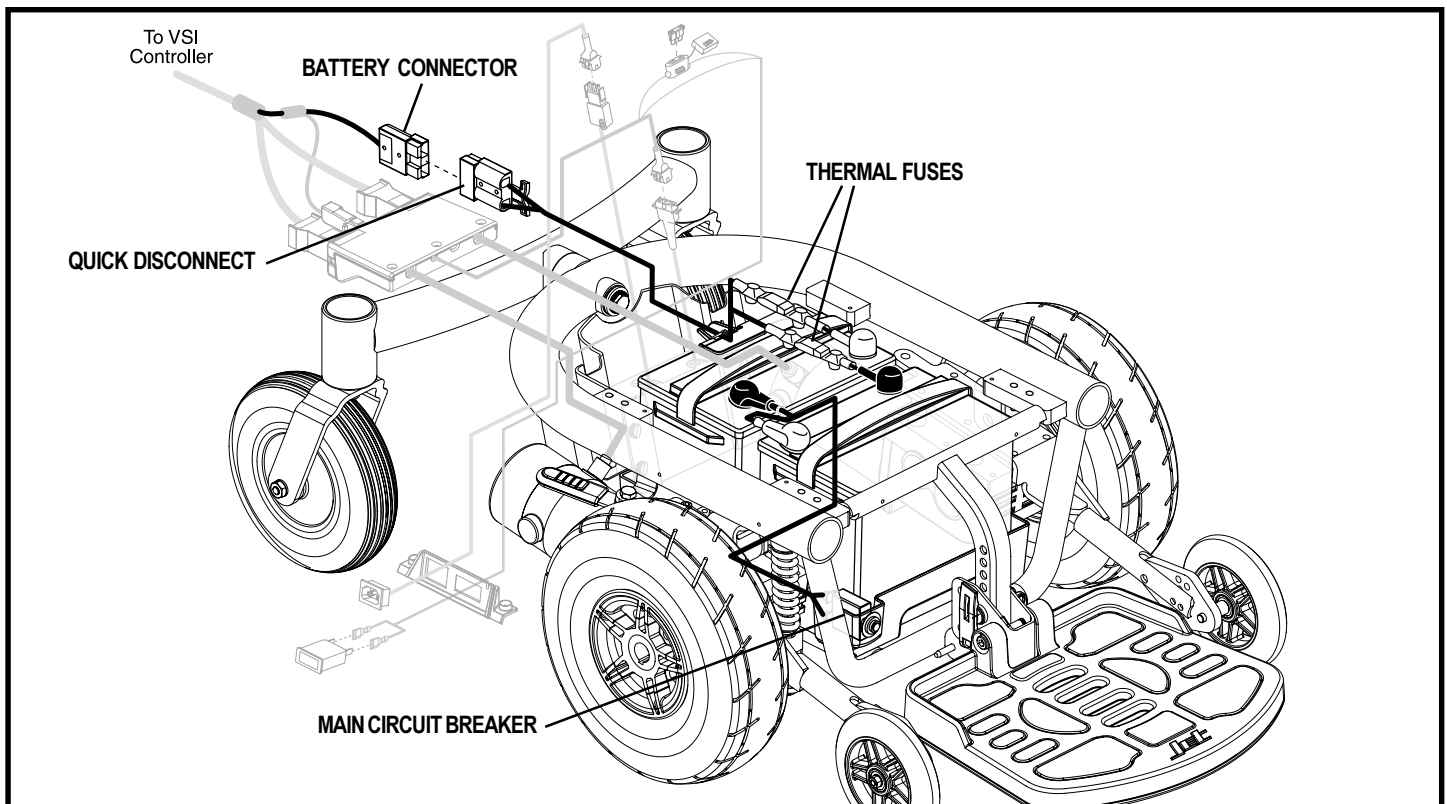

Figure 26. Jet 10 Ultra Battery Connections
5. Unplug the battery connector. See figure 26.
16. Connect the wiring harnesses to the back battery. See figures 26 and 27.
19. Connect the wiring harnesses to the front battery. See figures 26 and 27.